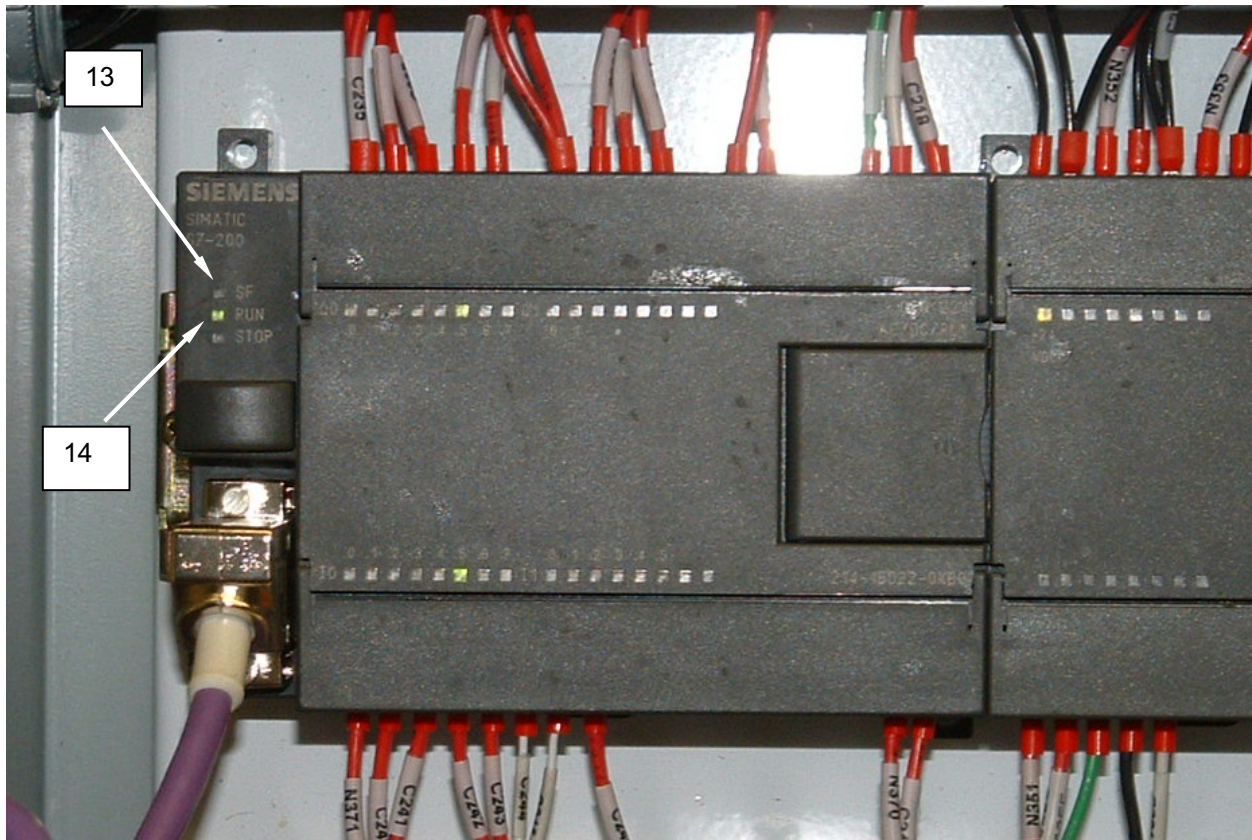
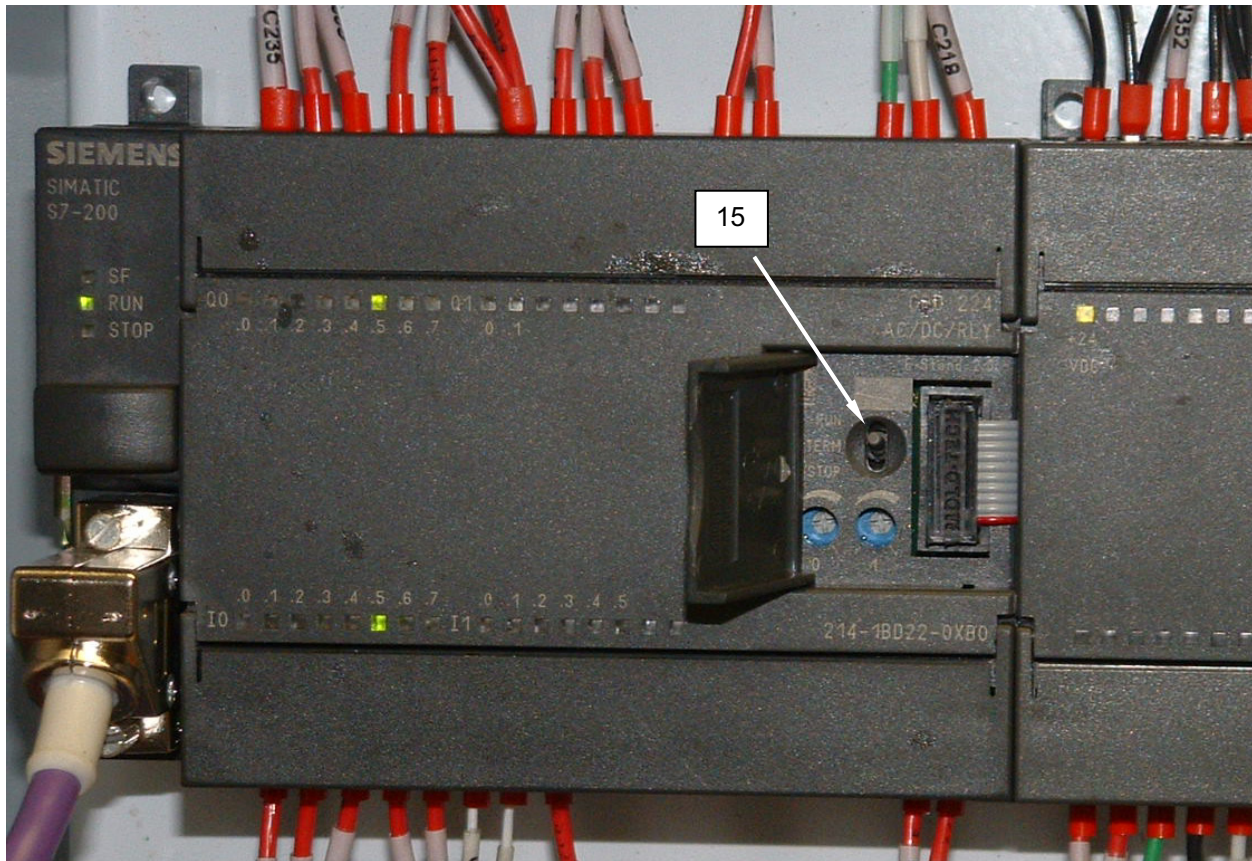

Figure 11. Test PLC Controller.
Figure 12. Test PLC Controller.
2. Check SF LED (**Figure 11, Item 13**). Replace a PLC controller displaying a CPU fault (SF) LED.
3. Ensure the RUN LED (**Figure 11, Item 14**) is lit. If not, ensure the DIP switch (**Figure 12, Item 15**) is set to RUN.